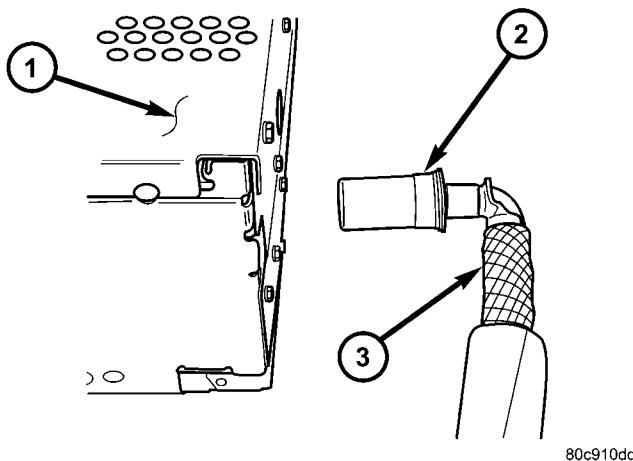

Fig. 5 ANTENNA TO RADIO
(4) Disconnect the antenna cable by pulling the locking antenna connector away from the radio (Fig. 5).